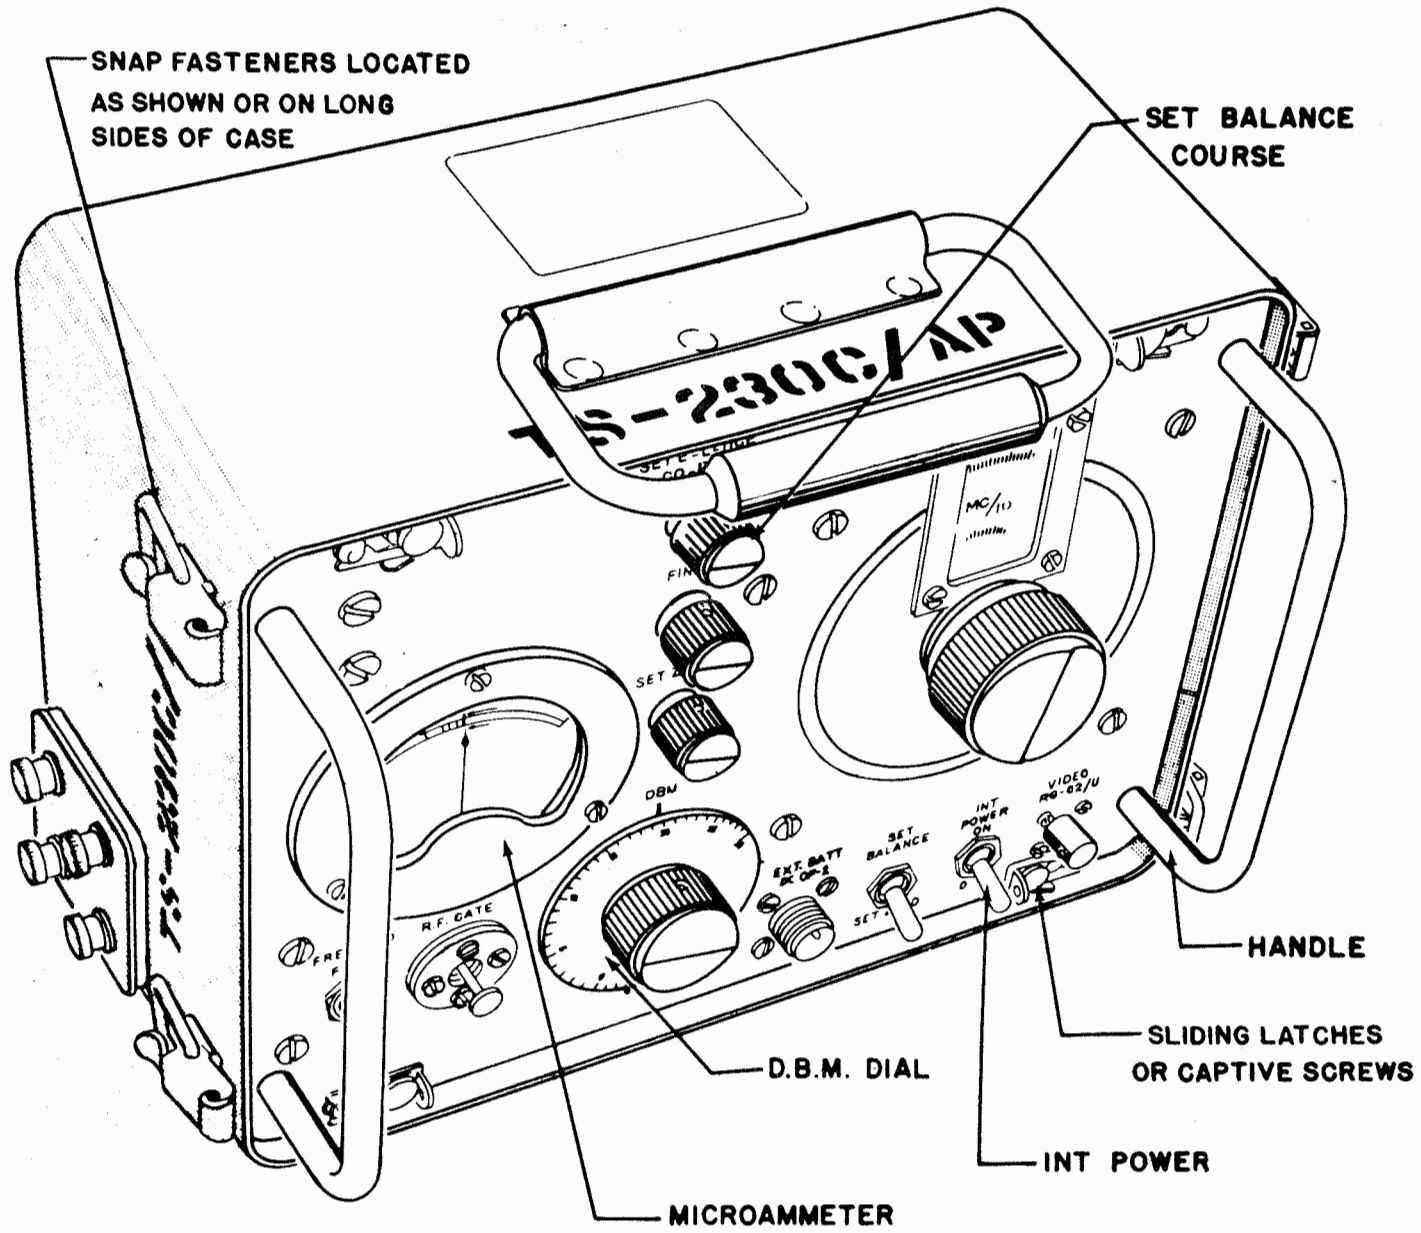

Figure 3-2. Frequency Power Meter TS-230C/AP, With Cover Removed
- (1) Unfasten the four snap fasteners on the ends of the case and remove cover. (See figure 3-2.)
- (2) Disengage the four sliding latches (see figure 3-2) located on the panel board at each corner.
- (3) Grasp the handles (see figure 3-2) at either end of the panel board and carefully lift the chassis out of the case.